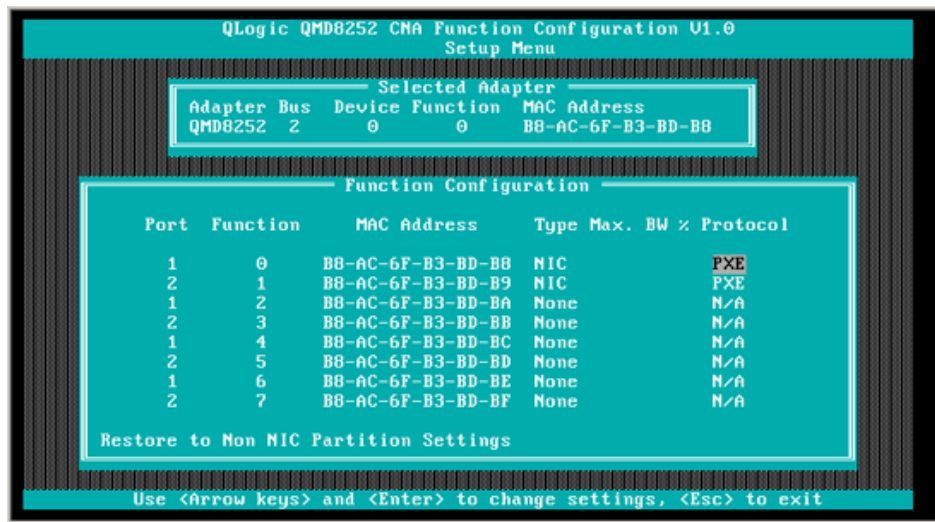

Figure 4: QLogic 8200 CNA Function Configuration
7. On the CNA Function Configuration main window, ensure that **Protocol** is set to **PXE** (Figure 4).